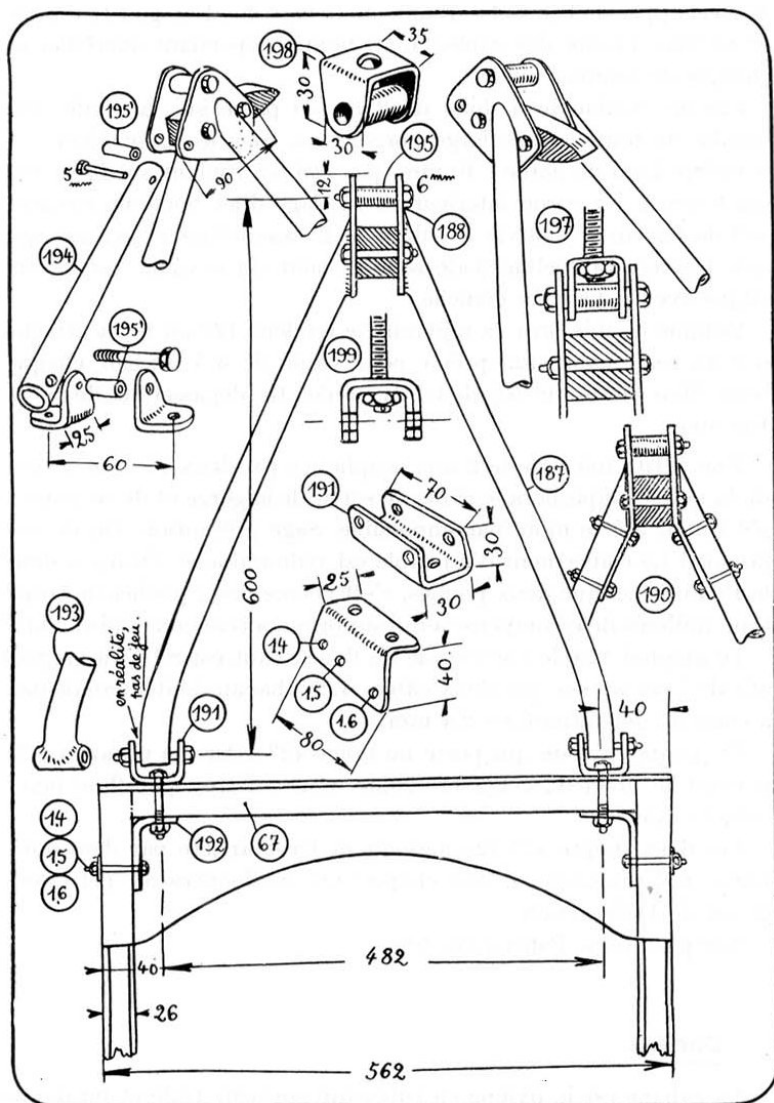

Figure 3.24: Layout of cabane struts
It is made (*fig. 3.24*) of two 17×20 tubes (187) welded onto two 2mm cheeks (188), which are separated by a block of hardwood (189) and fastened by two 6mm bolts.